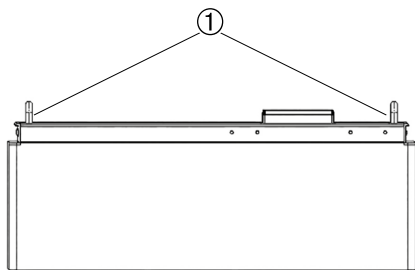

Fig. 3.4 - Battery module handles
- Lift the two handles on the battery module as blow, making sure the battery not tilting to one side (1, Fig. 3.4).